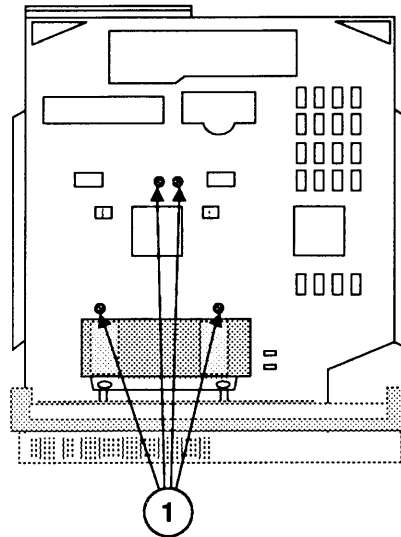

FIGURE 41
6. With the bottom of the chassis facing you, remove the four Phillips screws (Figure 41, #1) that secure the lower internal drive to the bottom of the metal chassis. Lift the drive free.
3. Replace the four Phillips screws (Figure 41, #1) that secure the internal drive to the bottom of the metal chassis.